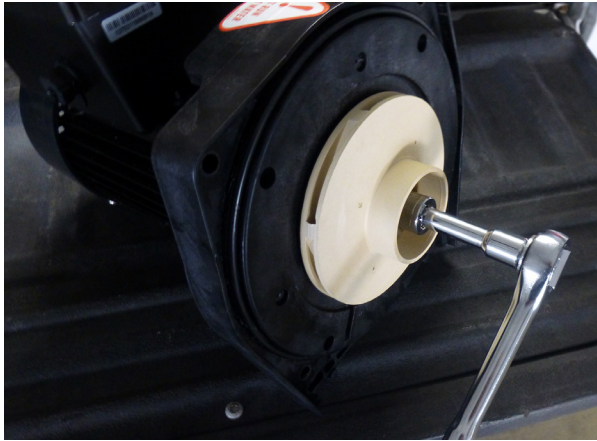

Figure 3. Impeller Bolt Removal
6. Remove the impeller center screw using a 5/8 inch socket wrench. NOTE – this screw is REVERSE THREADED and can only be removed by turning CLOCKWISE while holding the impeller stationary. See **Figure 3**.